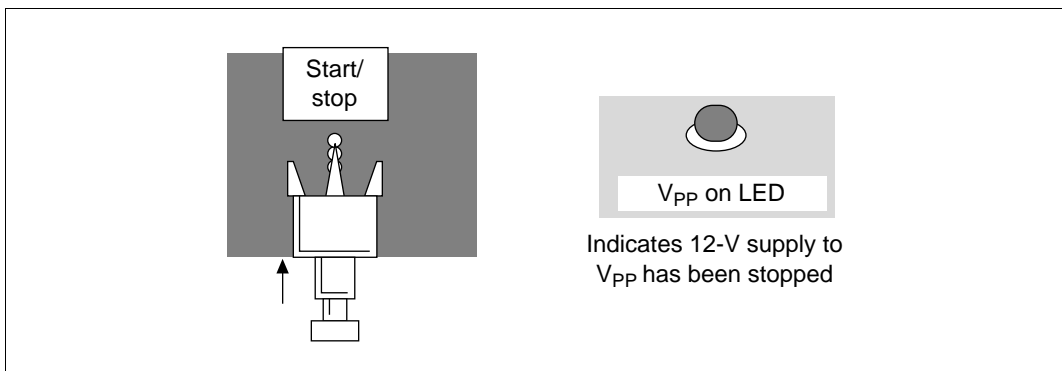

Figure 4.15 End of Programming Operation
10. Press the adapter board’s transfer switch to stop the 12-V supply to the V_{pp} pin and mode pin. The V_{pp} ON LED (red) goes off (figure 4.15). The F-ZTAT microcomputer in the user machine starts the application program.